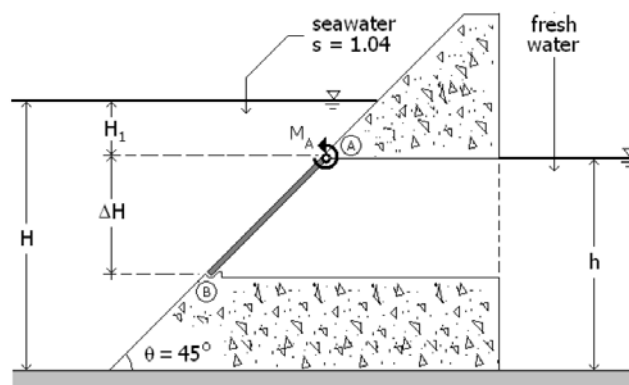

Figure 2: Square Gate / Rajah 2: Pintu Persegi
- [b] The Figure 2 below shows a square gate AB on the sloping face ($\theta = 45^\circ$) of a concrete dam used to contain seawater (specific gravity, $s = 1.04$). The gate, hinged at A and supported at B by a wedge, covers a square tunnel that connects the seawater to a freshwater reservoir. When the depth of seawater is $H = 1.83$ m, the top of the gate (point A) is submerged by an amount $H_1 = 0.61$ m, while the bottom of the gate (point B) is located at a depth $H_1 + \Delta H$ with $\Delta H = 0.91$ m. When the depth of freshwater reaches the depth of point A, as shown, determine the net moment from the hydrostatic forces on gate AB about point A.